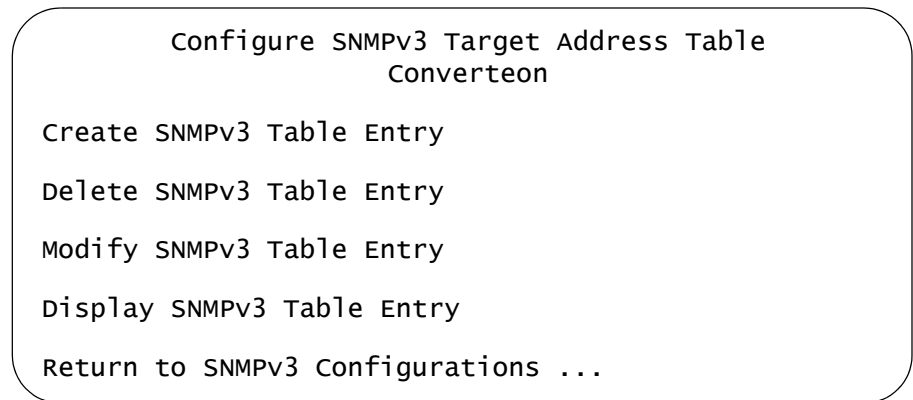

Figure 121. Configure SNMPv3 Target Address Table Menu
- From the Main Menu, select **Configuration -> System Configuration -> SNMPv3 Configurations -> Configure SNMPv3 Target Address Table**. The Configure SNMPv3 Target Address Table menu is shown in Figure 121.